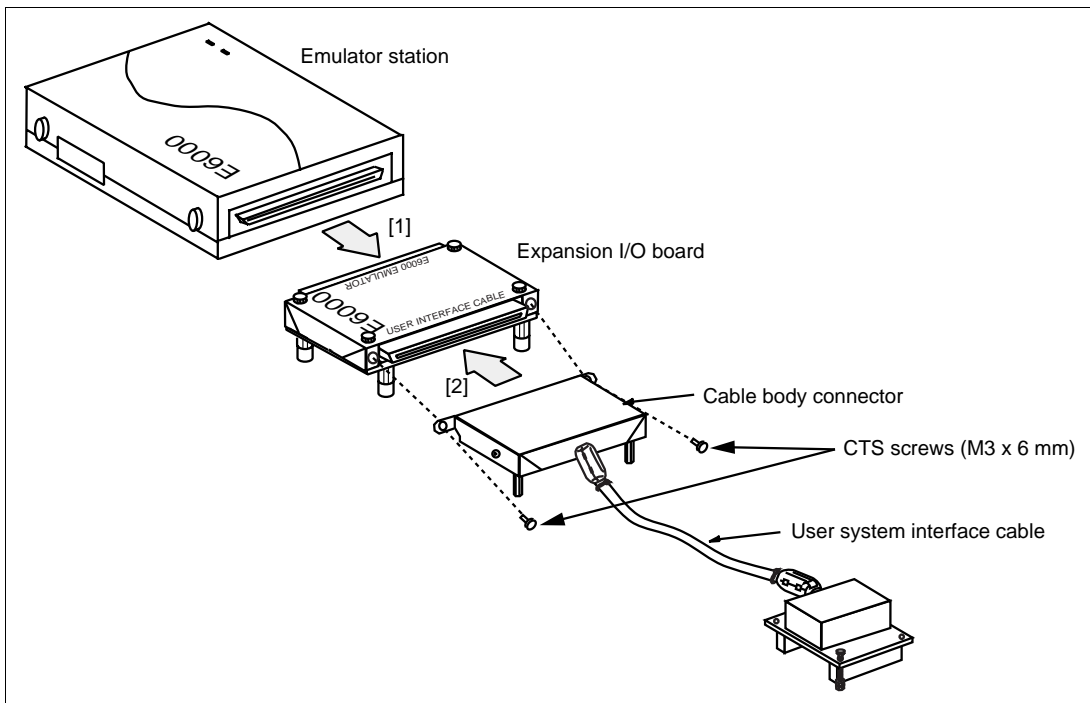

Figure 2.1 Connecting Expansion I/O Board to Emulator Station and User System Interface Cable
2. [1] After making sure the direction of the expansion I/O board connector labeled E6000 EMULATOR is correct, firmly insert the expansion I/O board connector into the emulator station connector ([1] in figure 2.1).